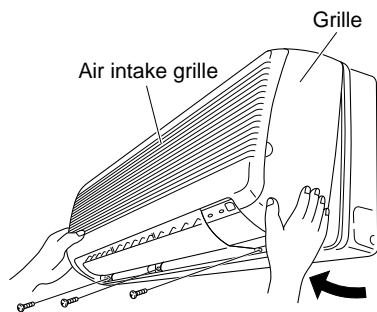
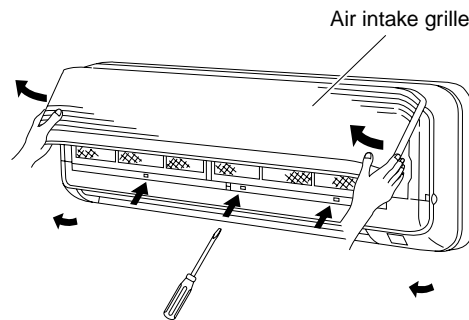

Fig. 14c
Fig. 14d
- (1) Set the 2 flaps in the horizontal position.
- (2) Unscrew the 3 screws. (Fig. 14c)
- (3) Remove the grille.
- (a) Hold both corners of the air intake grille, then pull out and up to open. (Fig. 14d)
- (b) Use a standard screwdriver to push up the 3 tabs to remove the grille. (Fig. 14d)
- (c) Pull the lower part of the grille toward you to remove. (Fig. 14c)